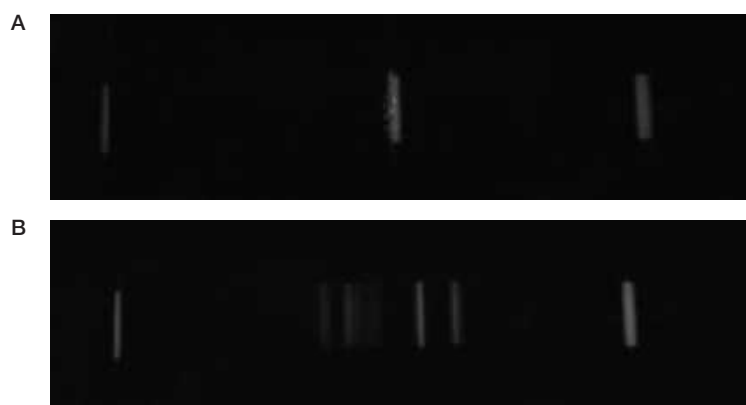

Fig. 21. Examples of a good center stream, A and a defanned center stream, B.
4. Use the defanning slider until the center stream is as focused as possible (Figure 21).